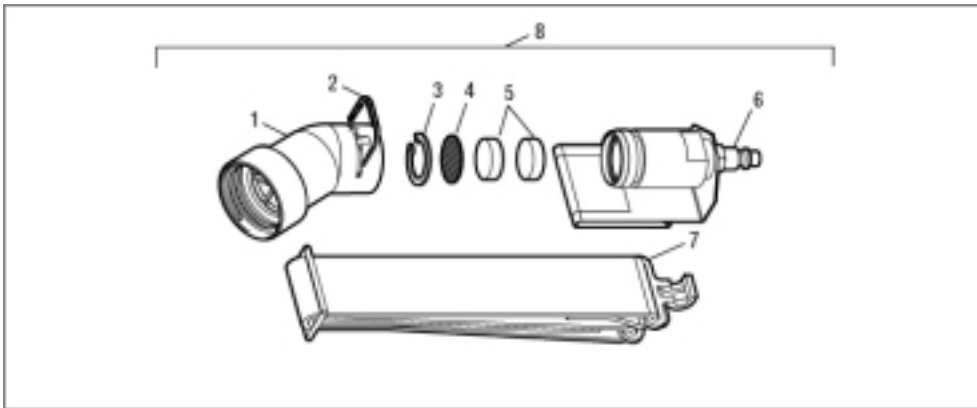

Fig. 4: V-400
The two disks (item 5, Fig. 4) inside of the low pressure adapter may become dirty after extended use from contaminants in the compressed air supply. They may be replaced by removing the retaining ring with the proper tool.